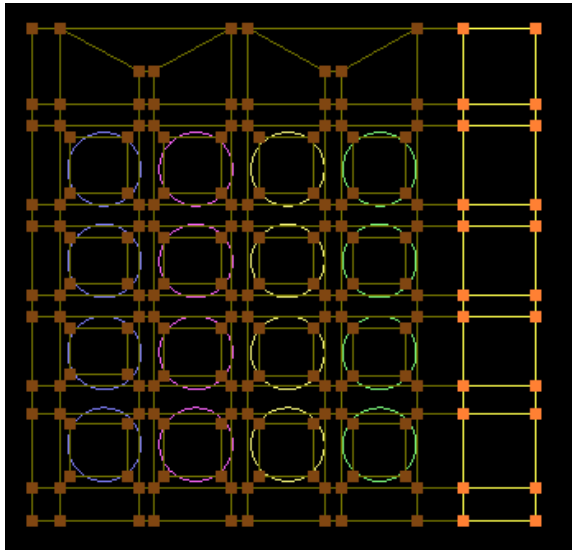

Figure 32.1
- Repeating the above steps for the outermost layer on the right side, copy the outermost layer corners to the right side as shown in figure 32.1.